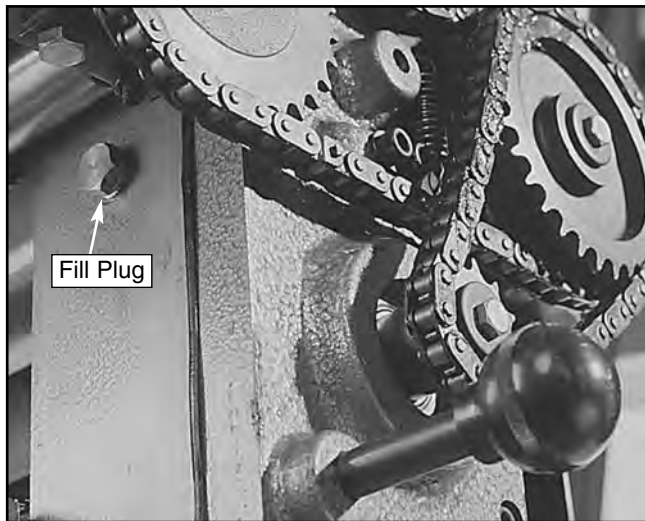

Figure 30. Location of gearbox fill plug.
3. The oil level in the gearbox should be to the bottom of the filler plug near the top of the gearbox. Top off with 80-90 wt. gear oil if necessary. *Use 50 wt. motor oil if you are working in an unheated winter shop.* See **Figure 30**.